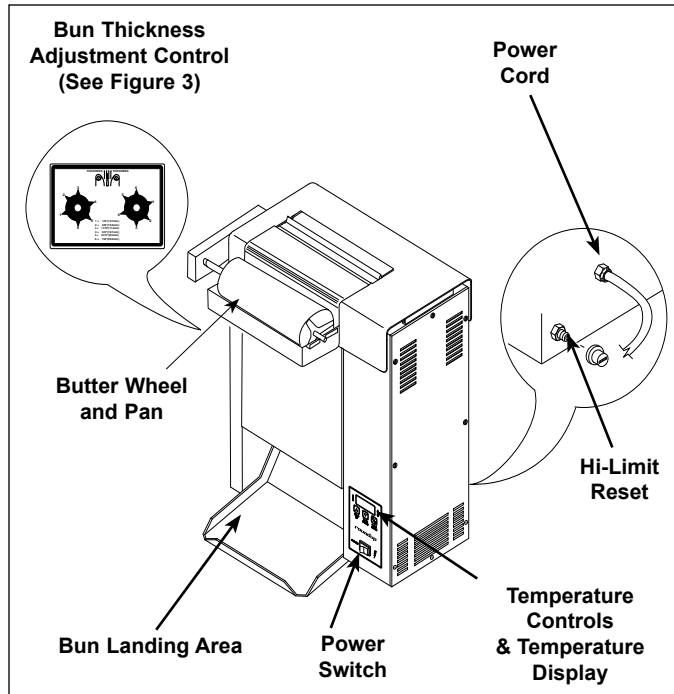

Figure 2. VCT-2000 Toaster
**NOTE: The Temperature Display (Figure 2) will flash "LO" until the toaster reaches its preset operating temperature. When the toaster approaches the preset temperature of 600°F (315°C), "USE" appears in the Temperature Display and the unit is ready to toast buns. If "USE" does not appear in the window after warm-up period of approximately 30 minutes, refer to the Troubleshooting section.**
3. Slide buns across the rotating Butter Wheel with the cut face down and drop buns into the Bun Feeder (Figure 2). The cut sides of heel and crown must face each other and slide against the Release Sheet.
4. Toasted buns will drop into the Bun Landing Area (Figure 2) in approximately 15 seconds.
A Hi-Limit Control turns off electrical power to the heater and control circuits if the unit overheats. To reset the control, allow 10-15 minutes for the unit to cool, then locate the Reset Button at the rear of the unit. Remove the black protective cap, press the Reset Button, and reinstall the protective cap (Figure 2).